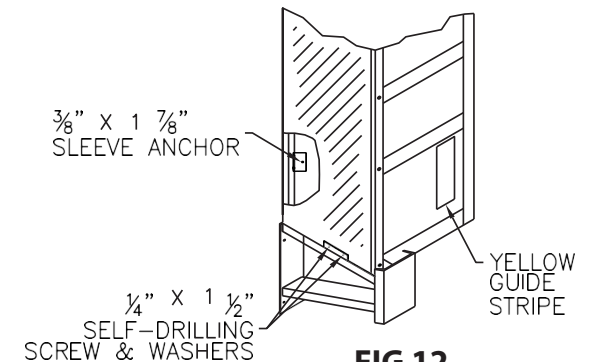

FIG 12
- If using Steel Protective Guard (Figure 12):